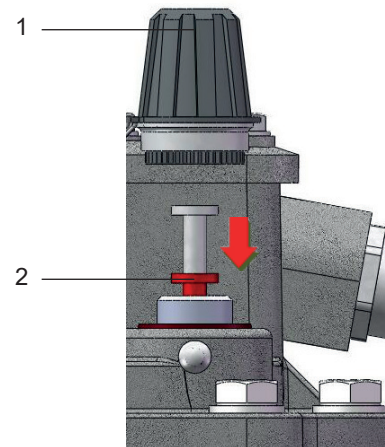

Fig. 16 – Test key
- Remove the large cap nut (Fig. 16/ no. 1).
- Press the test key (Fig. 16/ no. 2) down to stop position and keep it depressed.